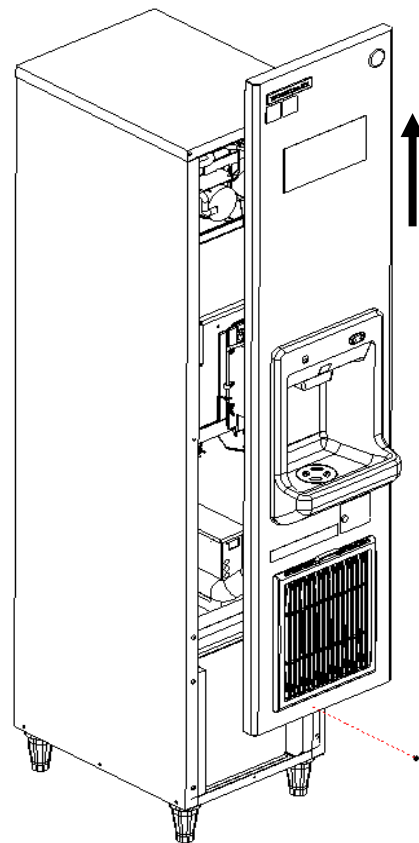

Fig. 1
- 3) Unscrew and lift off the front panel. See Fig. 1.
- 6) Refit the front panel, and screw in place. See Fig. 1.